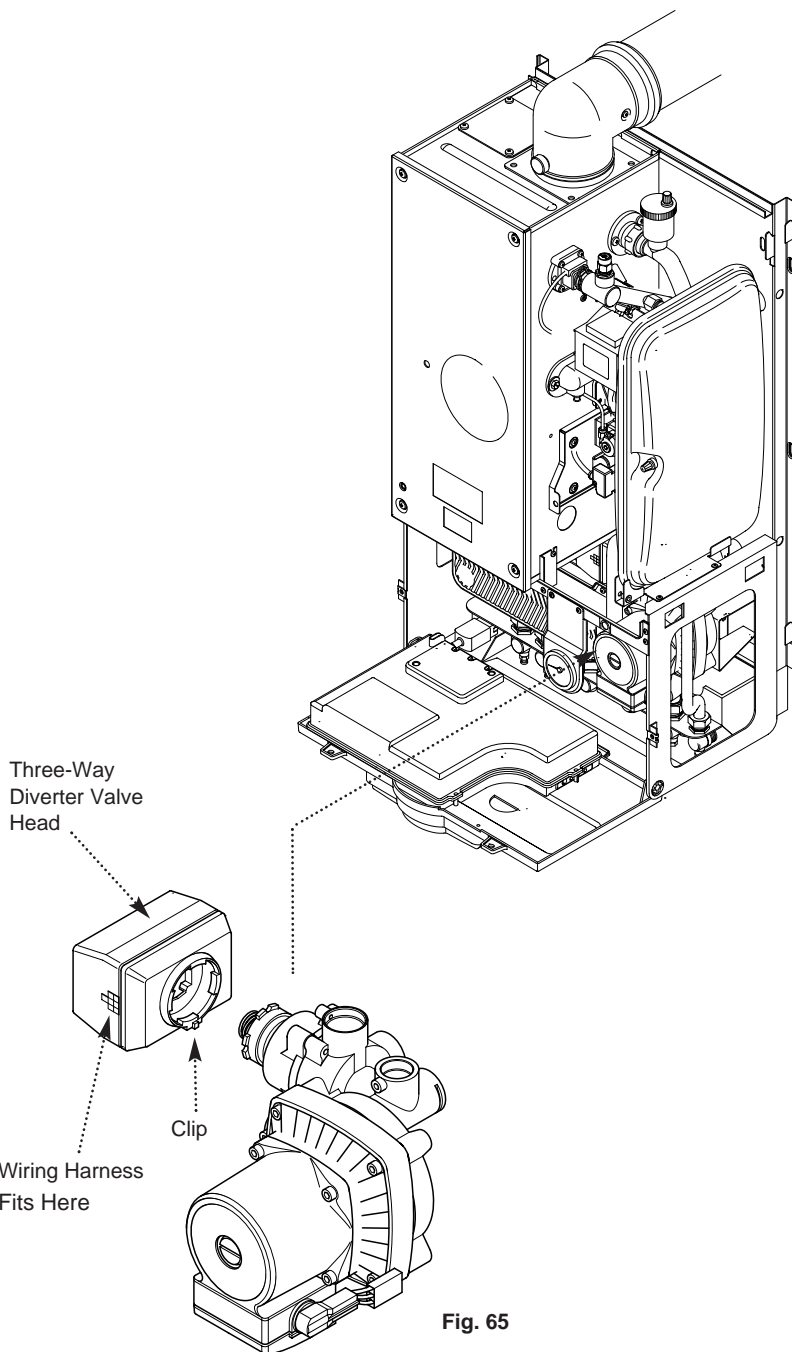

Fig. 65
13.10 Three-Way Diverter Valve (Head Only) (Fig. 65)